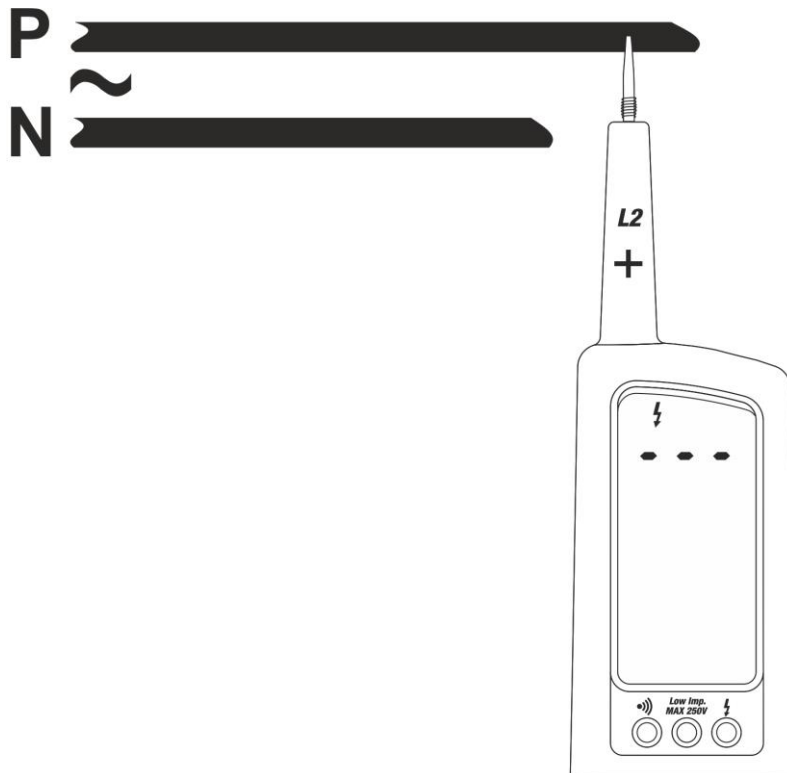

Fig. 5: 1-wire AC Voltage detection
2. Connect the L2 probe to the object under test (see Fig. 5). The measurement is performed **only when probe is in contact to live conductors**.